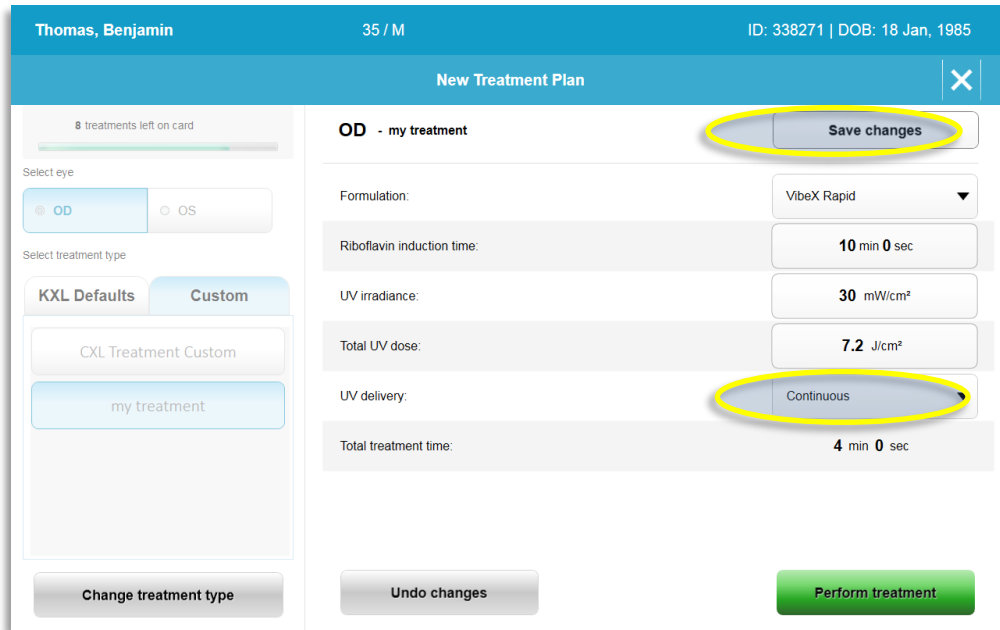

Figure 3-8. Custom Treatment Plan - Continuous UV Mode
- In the example below, the user selects “Continuous” UV treatment mode by pressing the dropdown menu to the right of “UV Delivery” as shown in Figure 3-8.